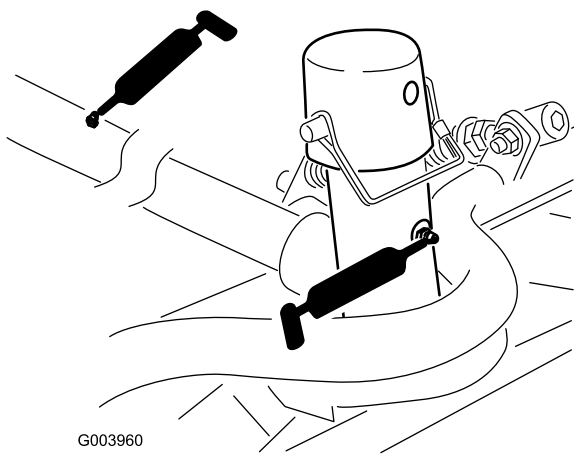

Figure 103
- Cutting-unit carrier-frame and pivot (2 each) (Figure 103)